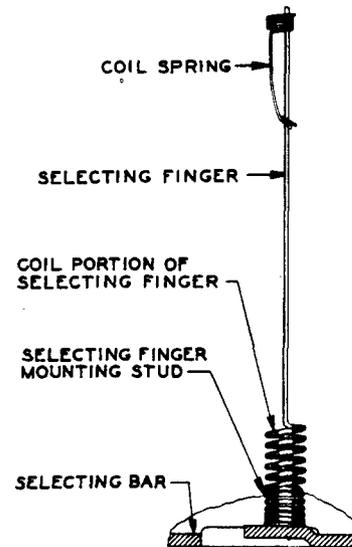

Fig. 4 – Method of Assembling Coil Spring of Selecting Finger
- (1) Remove the selecting bar as covered in 3.05.
- (2) Remove the old selecting finger by pulling it off with the P-long-nose pliers.
- (3) Use the 373D contact burnisher holder to aid in installing the new selecting finger as follows. Loosen the check adjusting nut of the burnisher holder. Place the selecting finger in the chuck of the contact burnisher holder so that the straight portion of the finger enters the handle of the holder and the coil portion of the finger will be engaged by the chuck. Press the coil portion of the finger into the chuck as far as it will go. About 1/4 inch of the coil will project outside the chuck. Then lightly tighten the nut, taking care not to crush the coil portion of the selecting finger inside the chuck.
- (4) Screw the selecting finger onto the selecting finger mounting stud and turn the finger until the end turn of the coil bottoms firmly against the selecting bar. Loosen the chuck adjusting nut and remove the contact burnisher holder. Make sure that there are five to seven free turns of the coil portion of the selecting finger beyond the free end of the selecting finger mounting stud. If there are less than five or more than seven free turns of the coil, remove the selecting finger and install another finger as covered above.
- (5) Determine the length of the adjacent selecting finger by means of the R-8550 steel scale and cut the tip of the new selecting finger off with the 5-inch diagonal pliers so that the new finger is the same length as the adjacent finger. Remove any burrs from the tip of the selecting finger by looping a piece of 320 Aloxite cloth over the finger and drawing it over the tip several times until the burrs are removed.
(6) Thread the loop end of a new coil spring onto the selecting finger, taking care to place the proper side of the loop toward the coil portion of the finger as illustrated in Fig. 4. Force the coil spring over the tip of the selecting finger and push the spring onto the selecting finger, being careful to avoid personal injury due to the sharp tip of the selecting finger. Push the coil spring on the select-